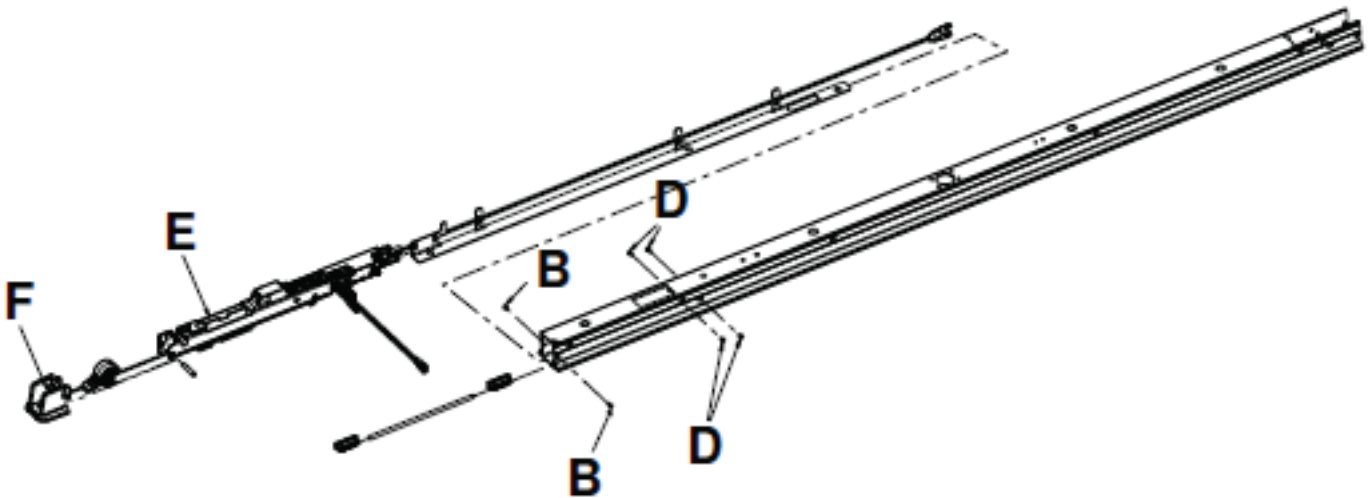

Figure 47 – Remove the anchor plunger assembly
5. Using a 1/8" hex wrench, remove the two flat head cap screws (B) that secure the release lever housing (F) to the anchor (Figure 47). Save the screws.
8. Using a 1/8" hex wrench, remove two of the four flat head cap screws (D) from one side of the anchor plunger assembly, mid (Figure 47). Save the screws.
9. Using the second 1/8" hex wrench, insert the wrench into the anchor pivot pin to remove the other two of the four flat head cap screws (D) (Figure 47). Save the screws.
11. Remove the anchor plunger assembly, mid (E) from the anchor (Figure 47).